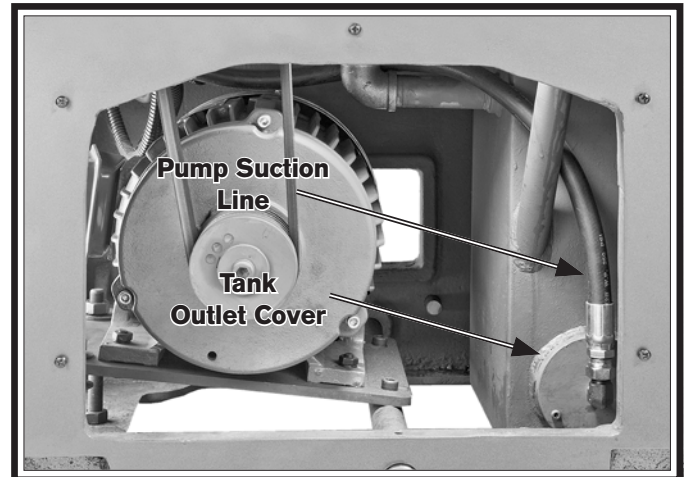

Figure 101. Location of tank outlet cover.
8. Place rags under the tank outlet cover to catch the residual oil in the tank when the cover is removed in the next step (see **Figure 101**).